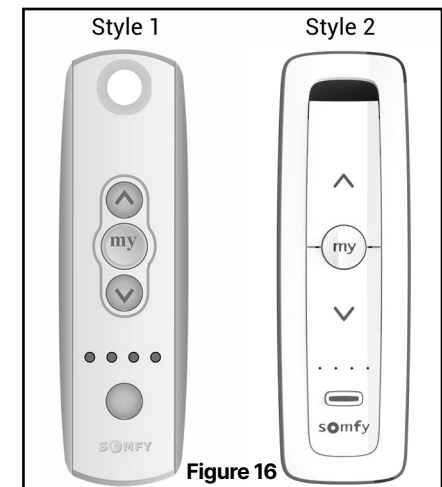

Figure 16
5. Remote style 1 uses a 3V Lithium CR2430 battery (see figure 16). Remote style 2 uses a 3V Lithium CR2032 battery (see figure 16).